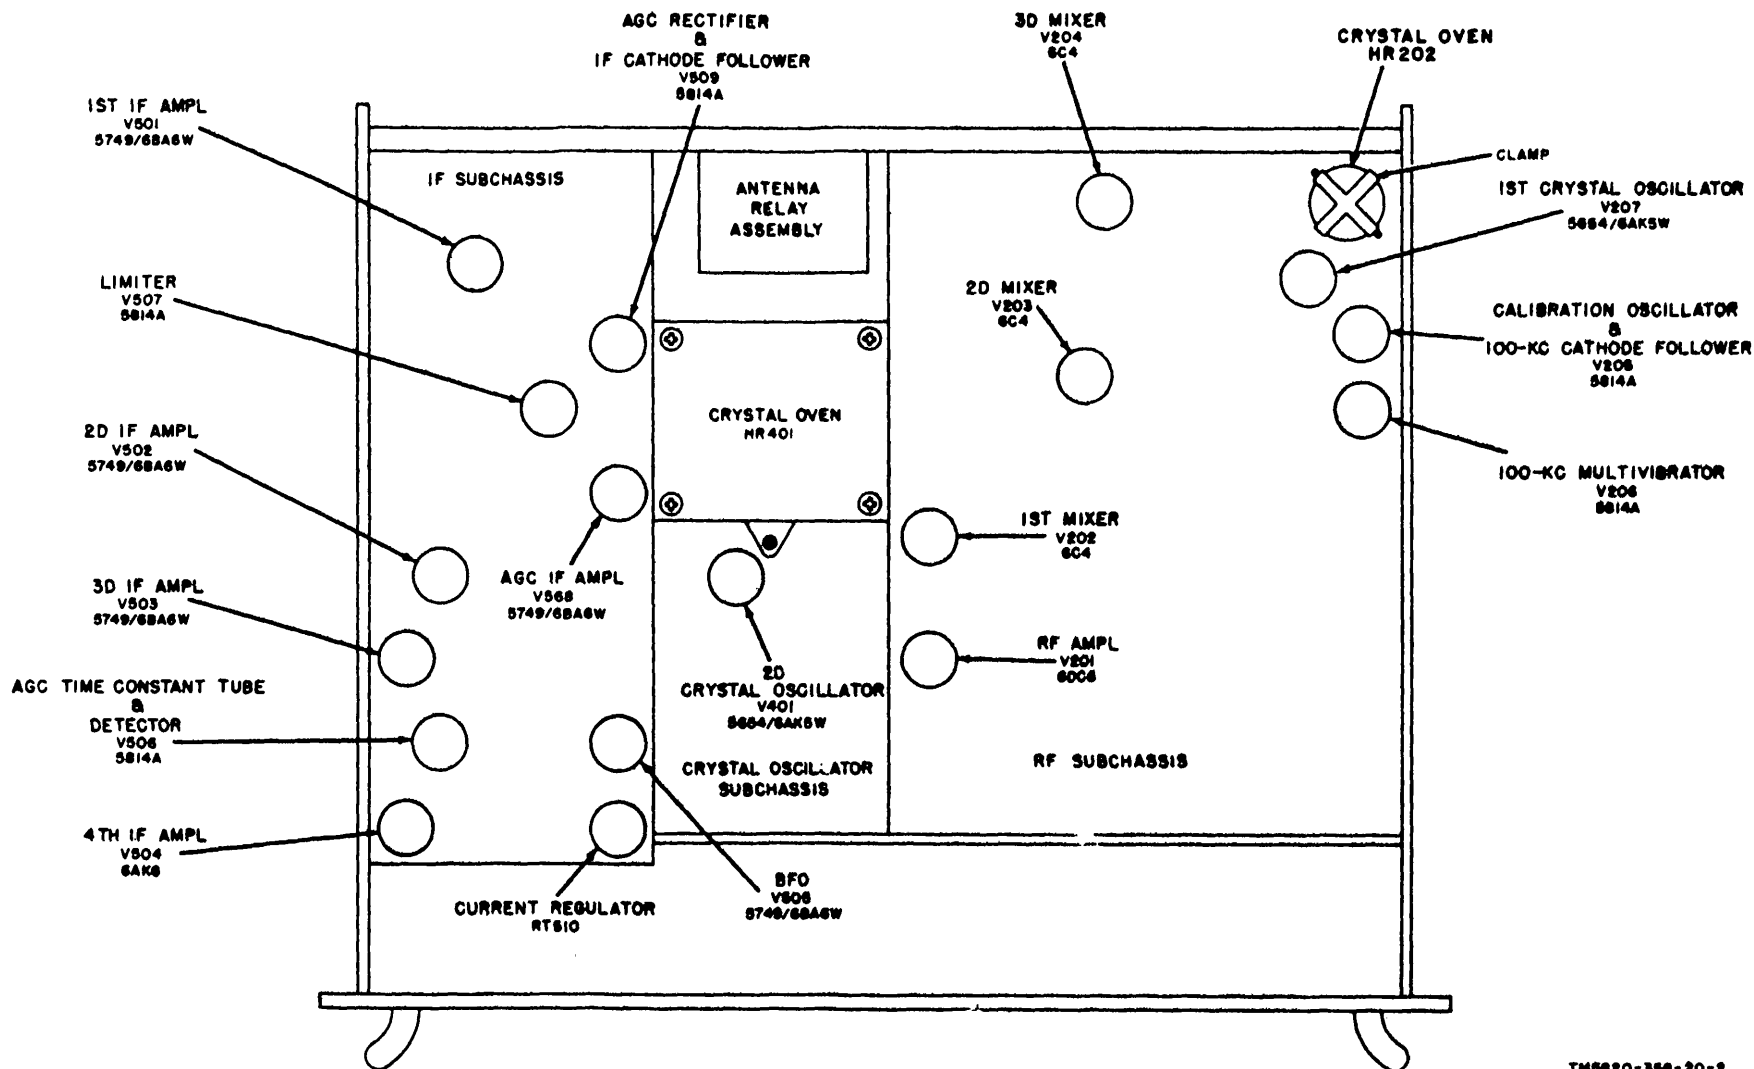

Figure 2. Radio Receiver R-390A/URR, top deck, tube, and crystal location.
- (1) See that all connectors are seated firmly.
- (2) If the receiver is to be used in a fixed installation, remove the shields from all tubes (fig. 2 and 3) except V201 through V206, V505, and V701.
- (3) Unless extremely dusty conditions are expected, do not replace the dust covers.
- (4) Do not replace the dust covers if the receiver is to be installed in Cabinet CY-979/URR or Cabinet CY-917/ URR.